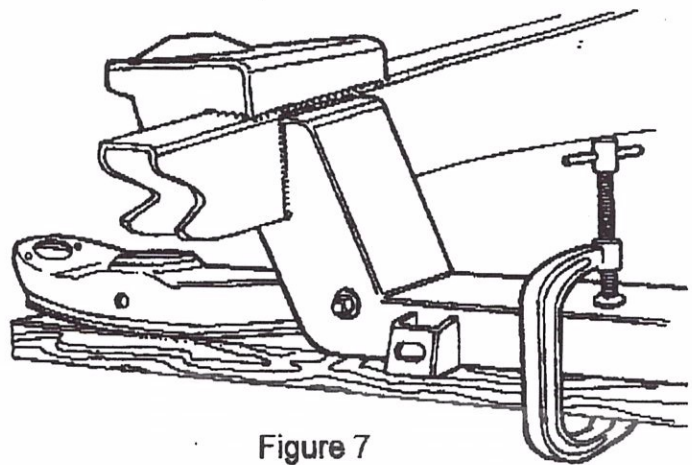

Figure 7
11. If you are using factory lower control arms and strut rods you will continue here. Use the lower control arm and strut rod for locating the rear strut rod supports and gussets. Using a 2 x 4 and a C-clamp, install the control arm as shown in Figure 7.